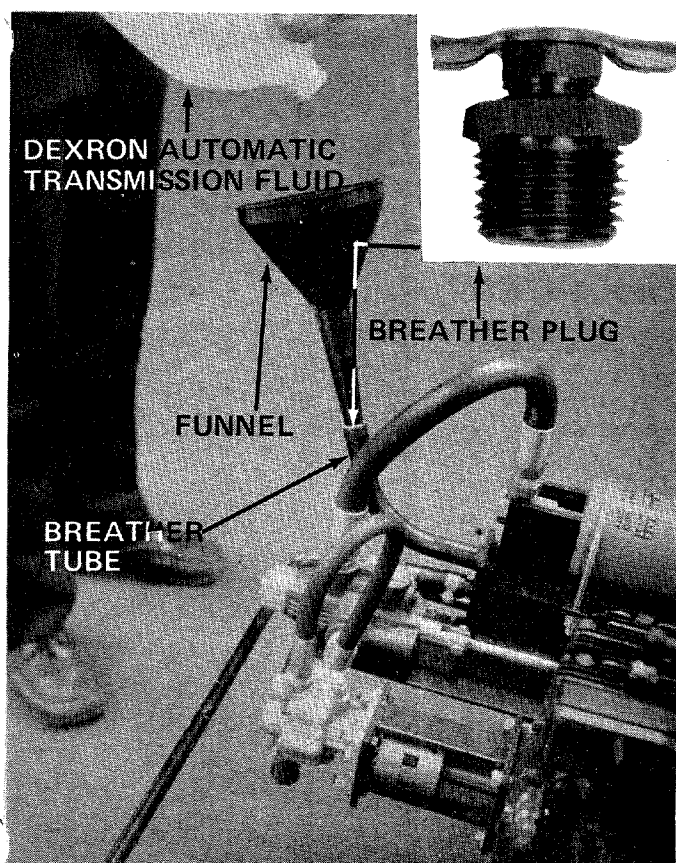
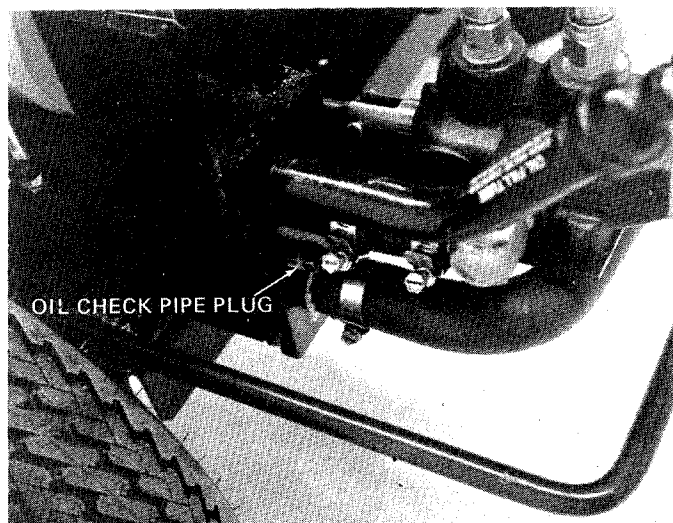

FIGURE 4
FIGURE 6
2. Remove the breather plug from breather tube. See figure 4. Pour 3-1/2 gallons of Dexron automatic transmission fluid **ONLY** into breather tube.
Check oil in log splitter reservoir before every use. See figure 6.
2. Remove check pipe plug in rear of beam. See figure 6. If oil starts to come out of check pipe plug hole, oil level is correct. **IF NOT** add oil to breather tube (figure 4) until oil starts out.
5. Remove the breather plug from breather tube. See figure 4. Pour 3-1/2 gallons of Dexron automatic transmission fluid **ONLY** into breather tube.